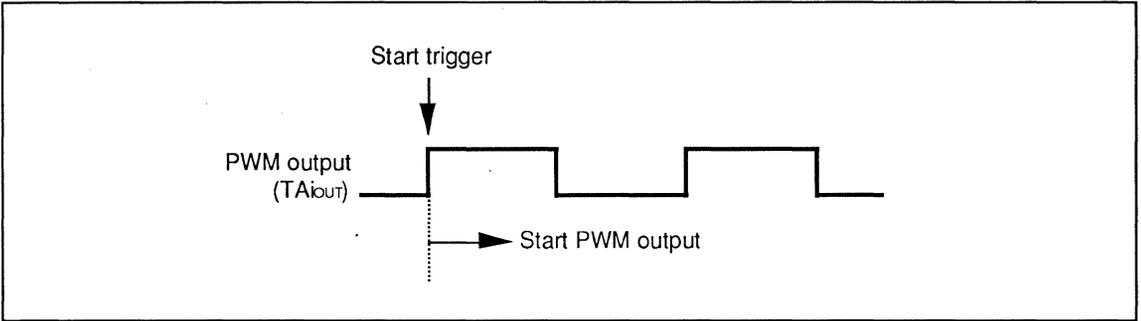

Fig.7.2.10 Pulse Output Start in 16-bit PWM Mode
PWM output starts immediately after a trigger as shown in Figure 7.2.10. However, the start trigger is internally synchronized and depending on the count source, it may take some time for the pulse output to start (see section 7.2.4 (9)).